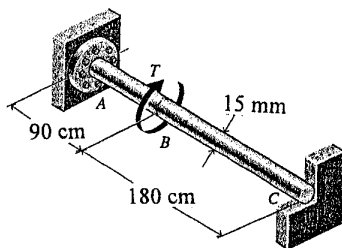

Fig. 1
- The solid steel ( $G = 80 \text{ GPa}$ ) shaft shown in **Fig. 1** is fixed to the wall at  $C$ . The bolt holes in the flange at  $A$  have an angular misalignment of  $0.0018 \text{ rad.}$  with respect to the holes in the wall. Determine